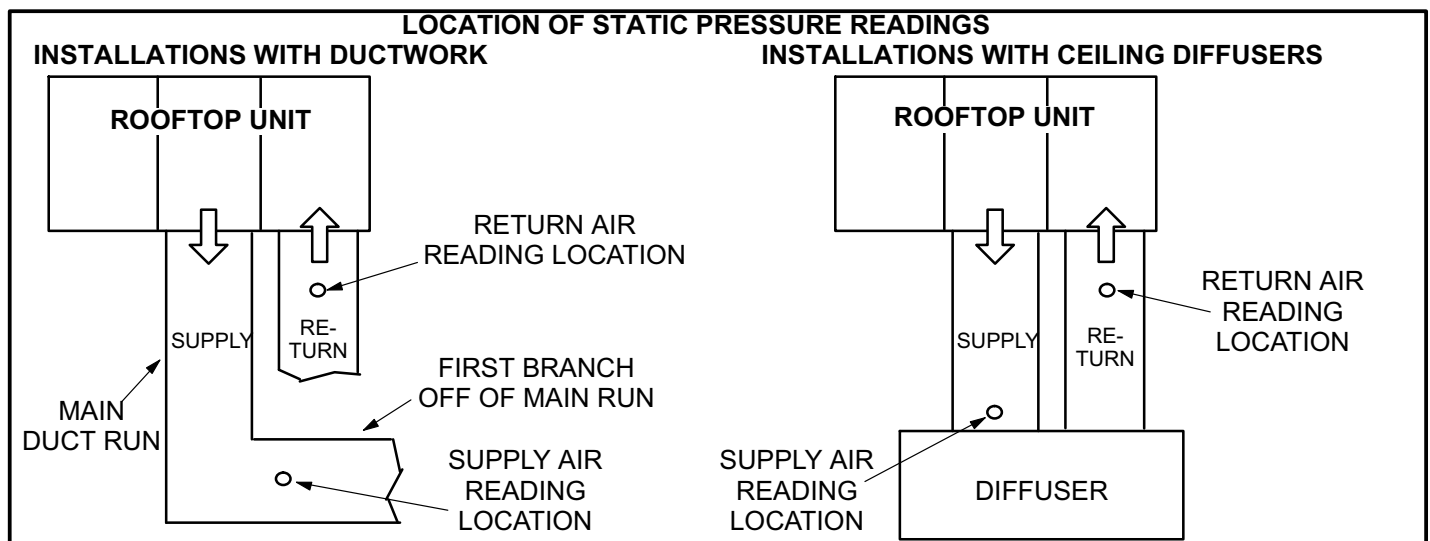

FIGURE 29
- 2- With all access panels in place, measure static pressure external to unit (from supply to return). Blower performance data is based on static pressure readings taken in locations shown in figure 29.
- 3- With all access panels in place, measure static pressure external to unit (from supply to return). Blower performance data is based on static pressure readings taken in locations shown in figure 29.